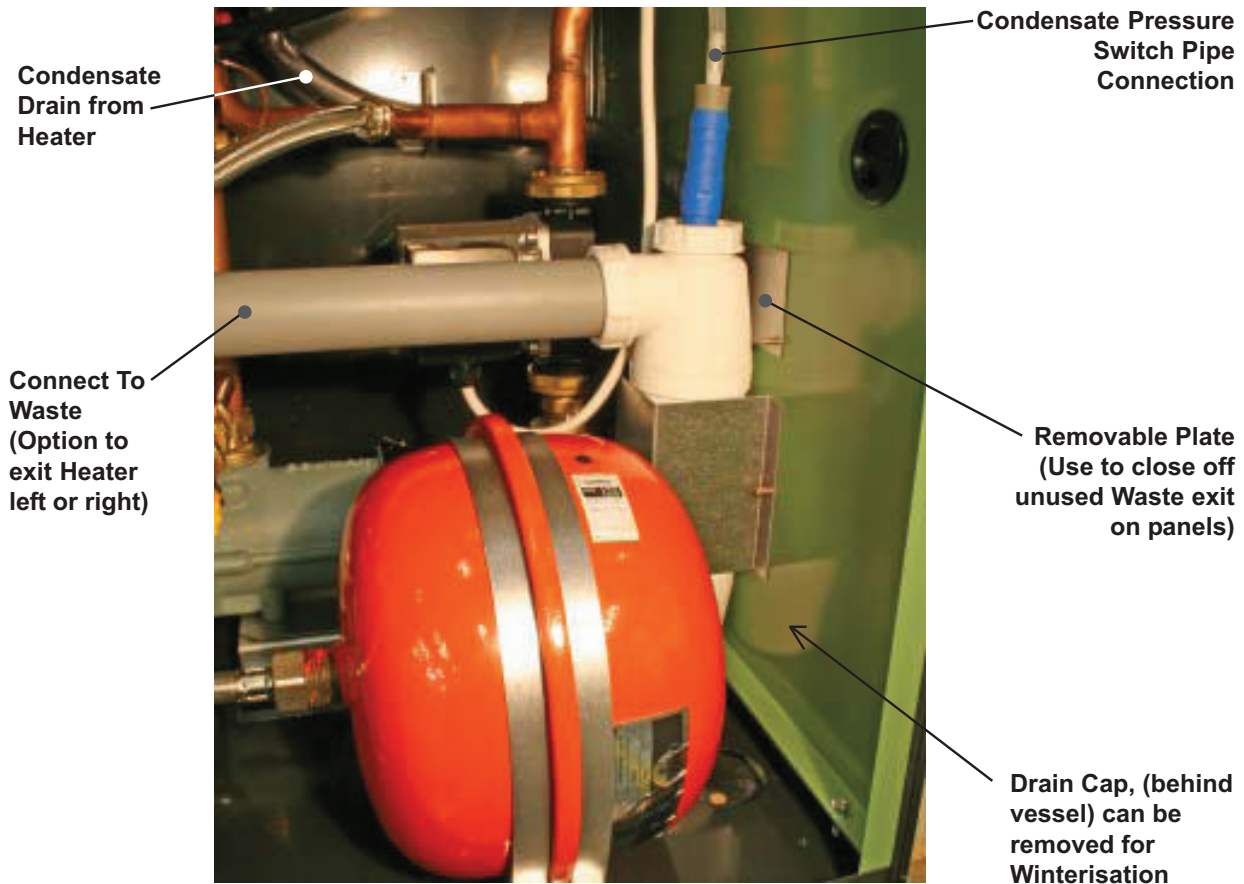

Fig.7.1
- Fit blanking plate to the left hand side. (**See Fig 7.1**)